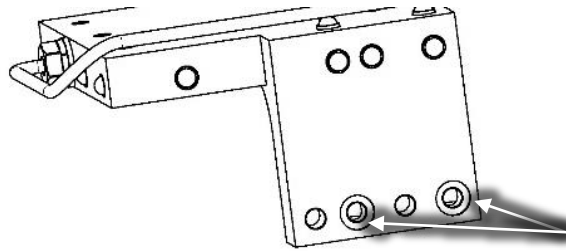

Figure 21 –SCR Cooling Manifold O-ring Installation
1. Apply O-Lube to the O-rings provided and install them into the SCR cooling manifold. Refer to Figure 21 (SCR Cooling Manifold O-ring Installation).